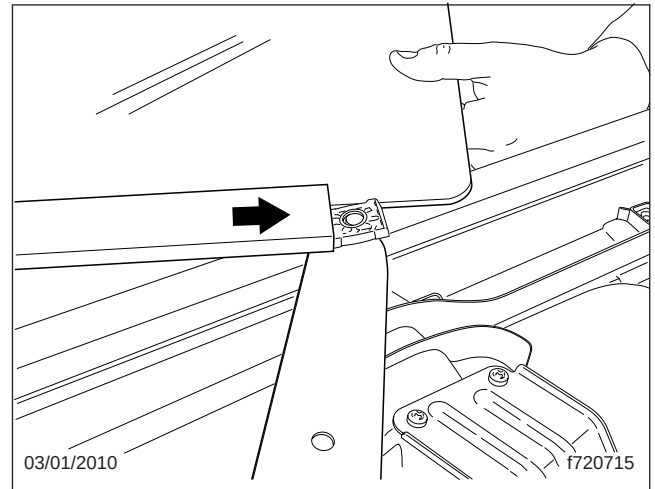

Fig. 2, Inserting Regulator Arm Tab in Glass Lift Channel
10. Install the new glass, inserting the tab on the end of the regulator arm into the glass lift channel. See Fig. 2. Slide the glass back until the rear edge is seated in the rear glass run channel.